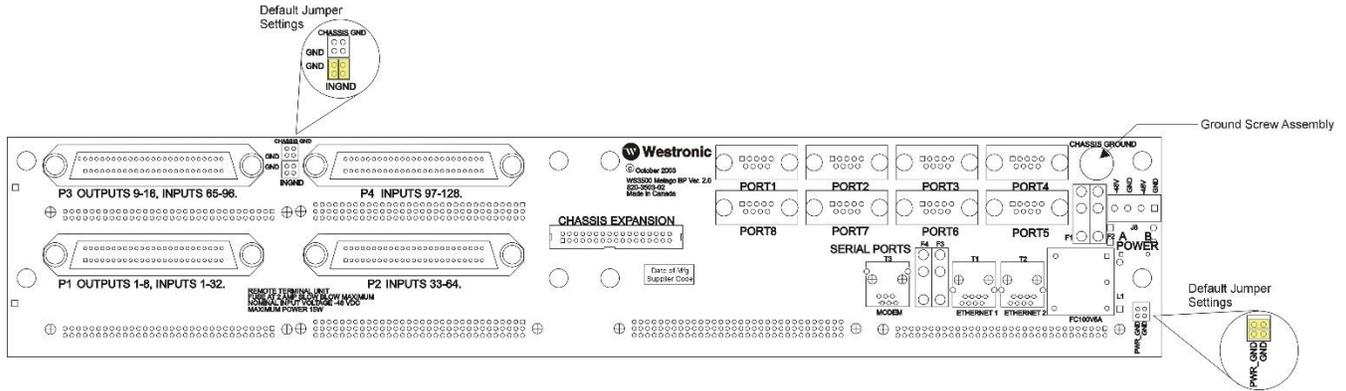

Figure 17 Rear View of the WS3500 RTU
**Note:** Factory default is to tie Pin 9 of the I/O Amp Champ™ connectors (P1 to P4) to Signal Ground of the RTU. This is accomplished by placing the jumpers vertically on the pins labeled GND and INGND on the backplane as shown in Figure 17. If you already tie your alarm input signals to ground at their source and only run one wire back to the RTU, then the two ground reference jumpers should be placed in the horizontal position. The preferred (factory default) method is to use the Signal Ground on the RTU as the input common to prevent a ground loop. This default setting requires that alarm common (returns) are tied to pin 9 (INGND) of their respective 50 pin connector as listed below so the discrete alarms operate correctly.